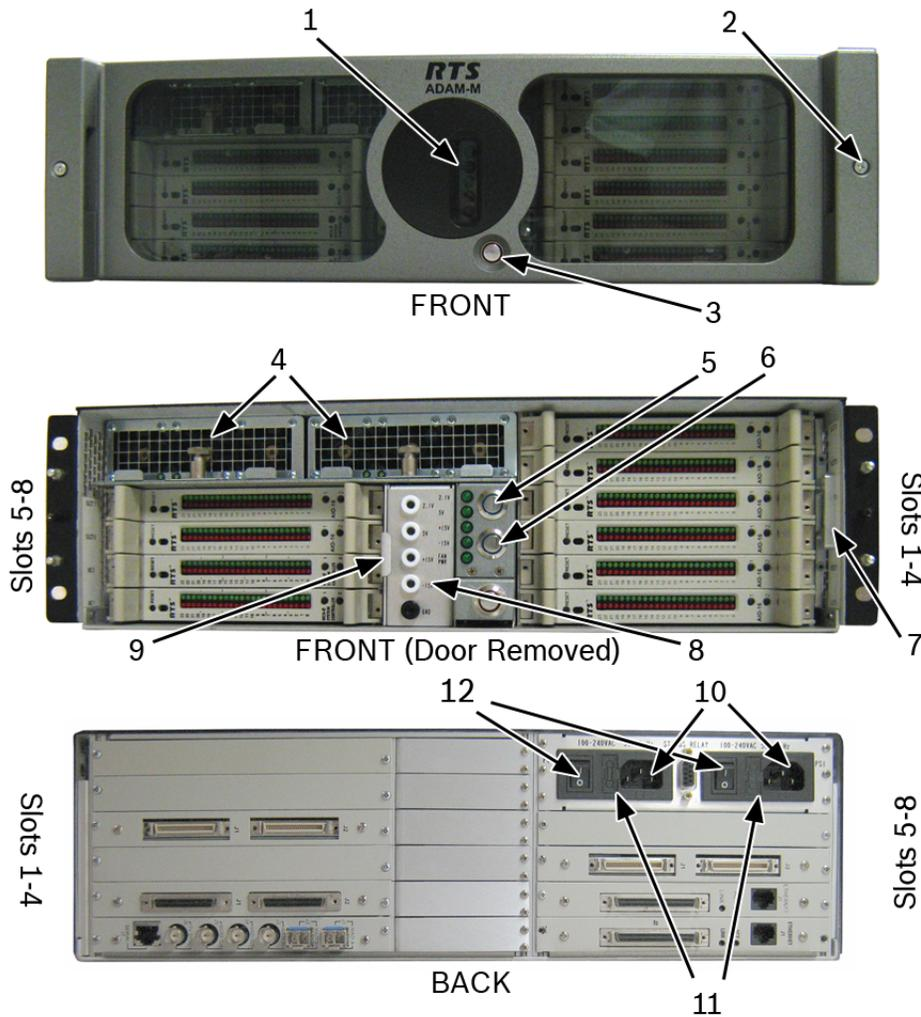

FIGURE 1. ADAM-M Reference View
1. Using a flatblade screwdriver, loosen the **thumb screws** on both sides of the front door. (see Figure 1 on page 10)
1. Loosen the **thumb screws** on both sides of the front door. (see Figure 1 on page 10)